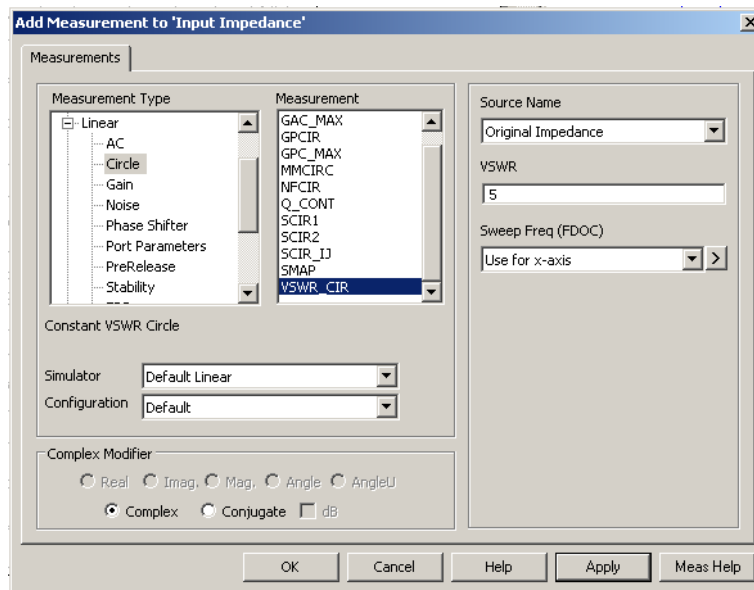

Figure 7.6: Chart 5 : Input Impedance VSWR Measurement
- Change your measurement dialogue box to match figure 7.6.